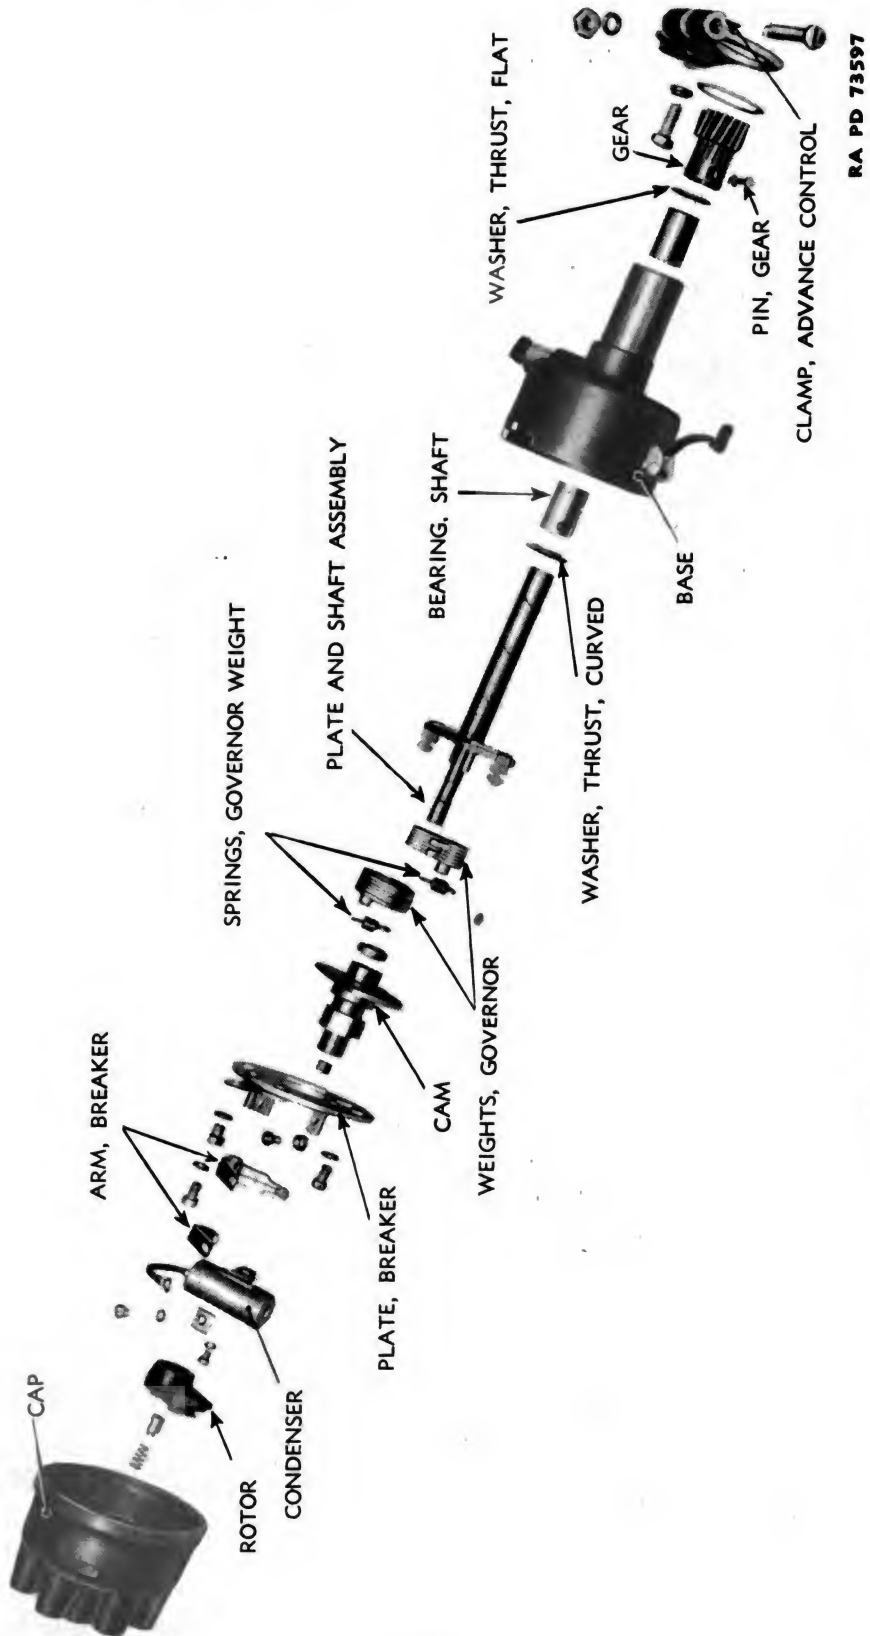

Figure 150 — Distributor — Exploded View
(1) Snap out lead connections from distributor cap. Loosen vertical cap screw in arm below distributor, and loosen horizontal bolt at right. Loosen iron collar below clamp, and remove distributor.
75. DISTRIBUTOR DISASSEMBLY (fig. 150).
77. DISTRIBUTOR ASSEMBLY (fig. 150).